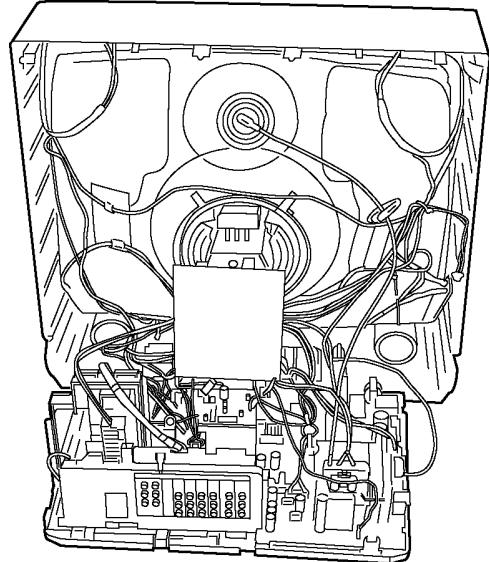

Fig. 3.
1. Hold and lift the rear of the chassis and gently pull the chassis toward you, as shown in **Fig. 3**.